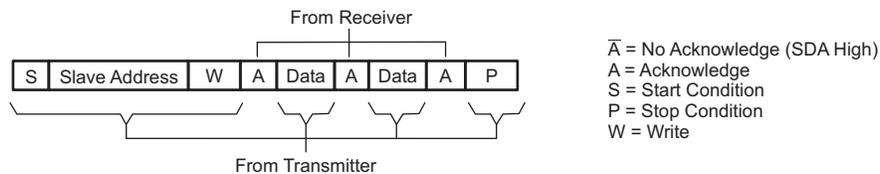
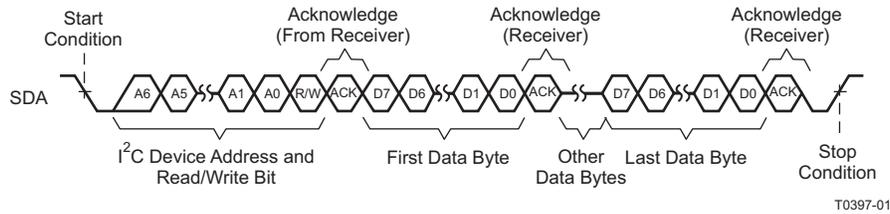
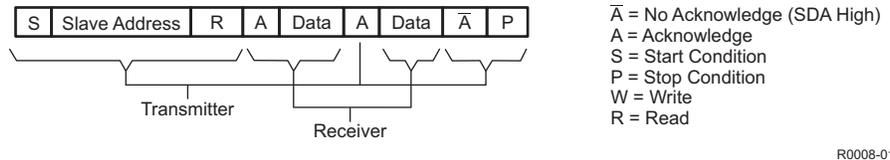
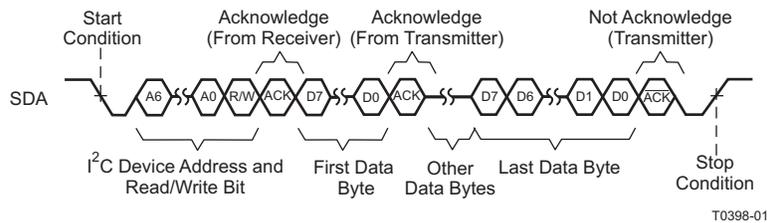

Figure 52. I²C Write Cycle
Figure 53. Multiple-Byte Write Transfer
Figure 54. I²C Read Cycle
Figure 55. Multiple-Byte Read Transfer
- The master generates further SCL cycles to either *transmit* data to the slave (R/W bit 0) or *receive* data from the slave (R/W bit 1). In either case, the *receiver* must acknowledge the data sent by the *transmitter*. So an acknowledge signal can be generated either by the master or by the slave, depending on which one is the receiver. The 9-bit valid data sequences consisting of 8-bit data and 1-bit acknowledge can continue as long as necessary (See Figure 52 through Figure 55).
During a write cycle, the transmitting device must not drive the SDA signal line during the acknowledge cycle so that the receiving device may drive the SDA signal low. After each byte transfer following the address byte, the receiving device pulls the SDA line low for one SCL clock cycle. A stop condition is initiated by the transmitting device after the last byte is transferred. An example of a write cycle can be found in Figure 52 and Figure 53. Note that the TMDS361B allows multiple write transfers to occur. See the Example – Writing to the TMDS361A section for more information.
During a read cycle, the slave receiver acknowledges the initial address byte if it decodes the address as its address. Following this initial acknowledge by the slave, the master device becomes a receiver and acknowledges data bytes sent by the slave. When the master has received all of the requested data bytes from the slave, the not-acknowledge (\bar{A}) condition is initiated by the master by keeping the SDA signal high just before it asserts the stop (P) condition. This sequence terminates a read cycle as shown in Figure 54 and Figure 55. See the Example – Reading from the TMDS361A section for more information.